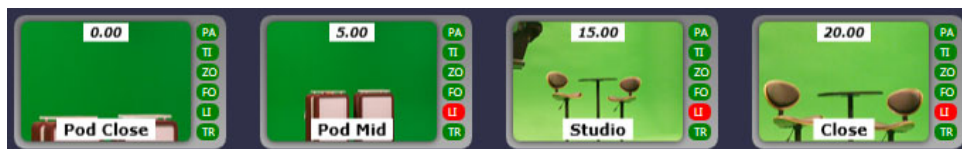

Figure 42 - Preparing to Delay the Start of the Lift Axis (Li dot) in a Move
1. In the second keyframe and all subsequent keyframes of the move, disable the axis you want to delay. Figure 42 shows settings for delaying the **Lift** axis.